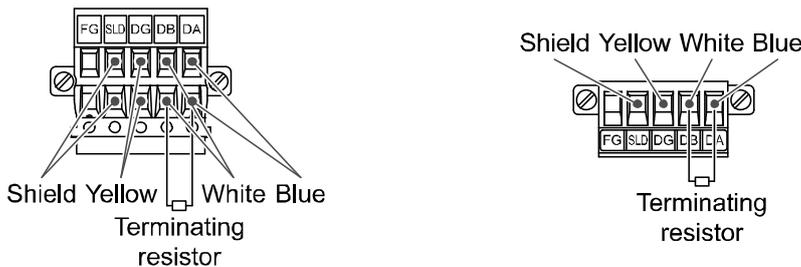

Figure 3
(3) The terminating resistance to be connected to the CC-Link network depends on the type of cables used. (Refer to the table below. Figure 3)